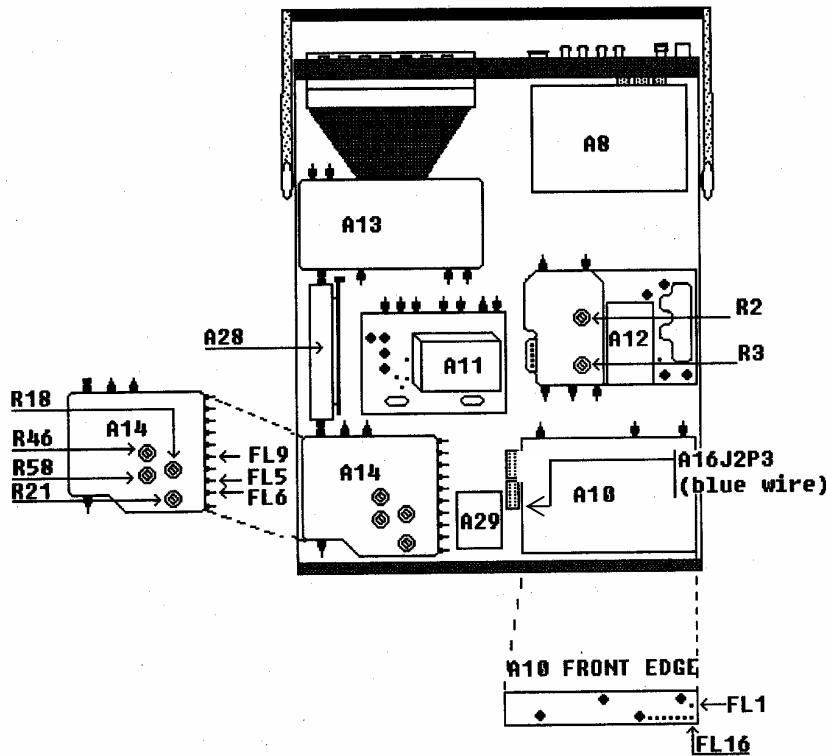

Figure 5. Test instrument - bottom view.
A12R2 and A12R3 (fig. 5) are interactive and adjustment will be extremely sensitive.
- (32) Alternately adjust A12R2 and A12R3 (fig. 5) on receiver IF module for minimum amplitude of the 1st LO signal -50 dBm maximum (R).
(4) Stand TI on end and locate power term, A14 (fig. 5) in lower left hand corner.
(5) Press **MODE MTRS** (Meters Menu) key and **DATA ENTRY 3** key (Pwr Meter (Pulse/CW)).
(6) Press **Range (F1)** and **DATA SCROLL** arrow keys to select **2 W** range, then press **DATA ENTRY ENTER** key.
(7) Connect a  $50 \Omega$  load to TI T/R.
(8) Connect multimeter to A14FL9 (fig. 5) RF power level output, and set multimeter to measure V dc.